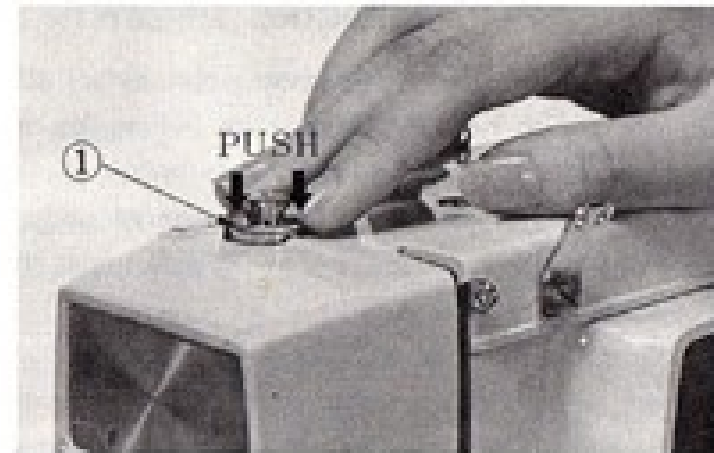
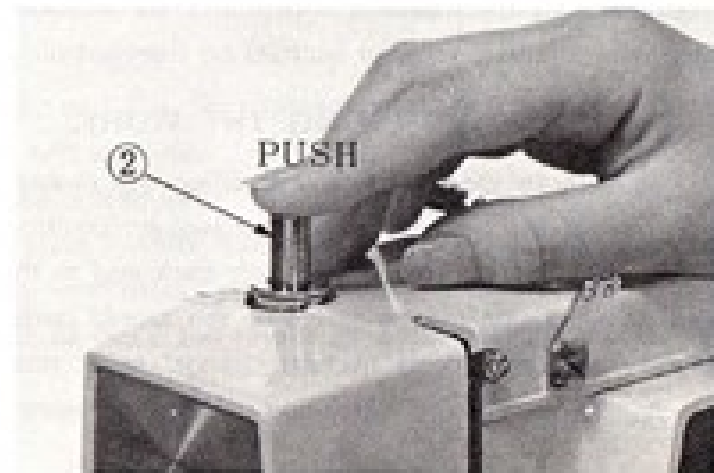

Fig. 21
Fig. 22
Release all the way by pressing the snap lock, (①, Fig. 21) and then press cap (②, Fig. 22) down again to halfway spot.
In order to move the fabric freely in any direction for darning, mending and certain kinds of free-hand embroidery, release the cap (②, Fig. 22) completely by pressing down on the snap lock, (①, Fig. 21) Press "DOWN" button all the way down, which drops the feed well below the needle plate. To return feed to normal, press "UP" button, push cap down. (Fig. 22)